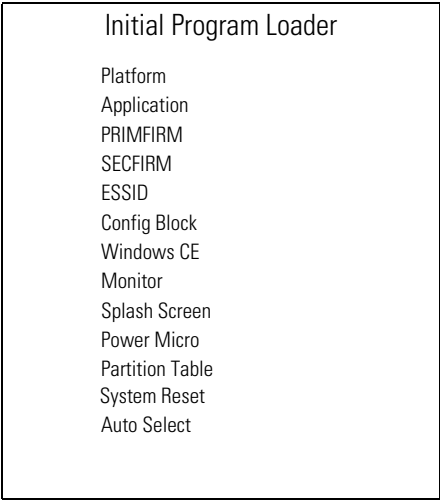

Figure 11-7. Initial Program Loader (IPL) Menu
22. To exit IPL, select the *System Reset* item from the IPL menu (see Figure 11-7 on page 11-12).